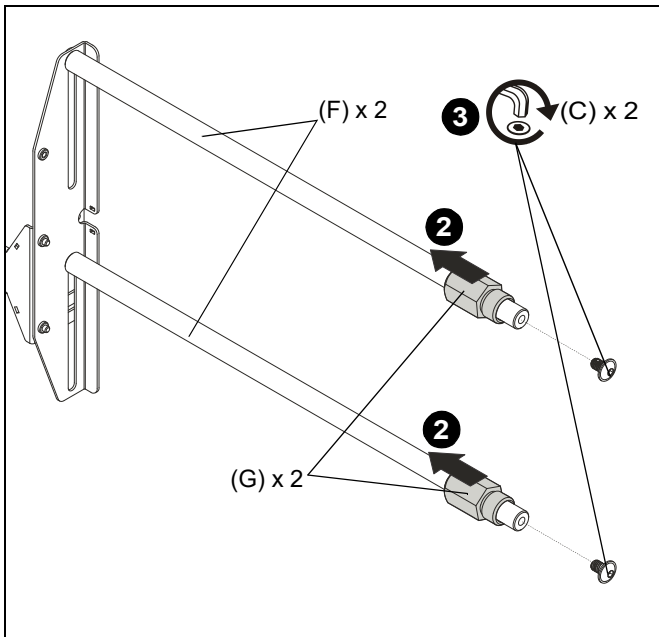

Figure 4
2. Slide rail bushings (G) onto extension bars (F). (See Figure 4)
3. Install two 5/16-18 x 1/2" button head cap screws (C) into ends of extension bars (F) to keep bushings (G) from sliding off bars. (See Figure 4)